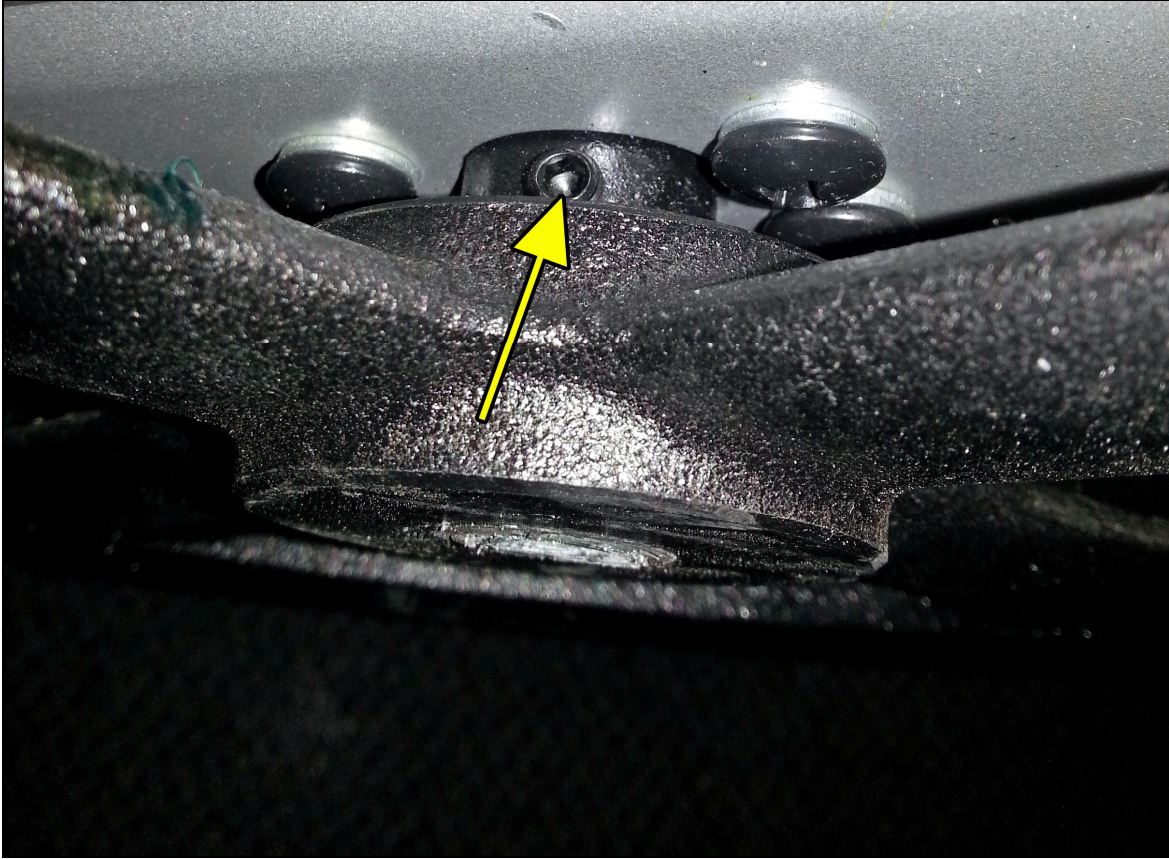

Fig. 9
10. Tighten the set screw on the wheel (user right side) using the 5mm hex key. (Fig. 9)